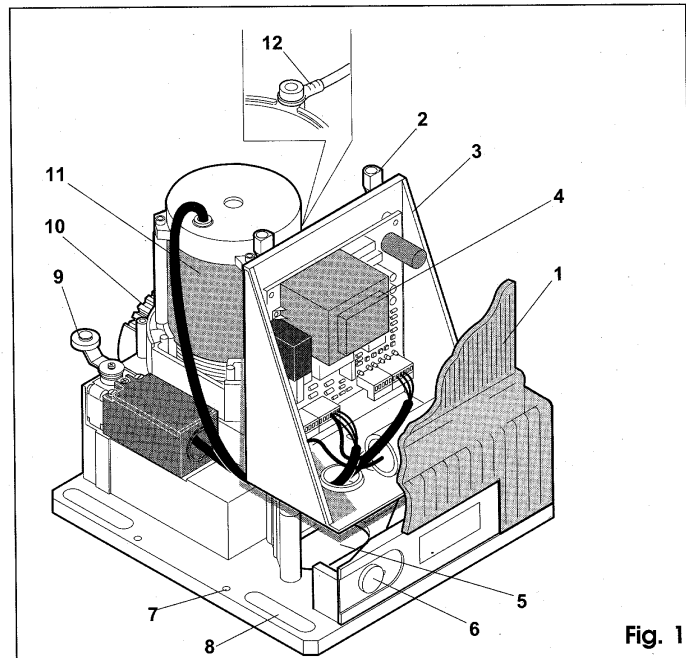

Fig. 1
- 6) Fasten the operator to the base plate by means of the screws and washers supplied, as shown in fig. 6. The positioning of the operator is shown in fig. 5. Pass the electrical cables through the relevant opening (fig. 1 - ref. 5) on the base of the operator.
- 7) Pass the electrical connection cables through the relevant opening on the base of the electronic control unit support (fig. 1 - ref. 3), using the cable clamp supplied.
Important: 1) Connect up the earth cable of the system to the position shown in fig. 1 - ref. 12.